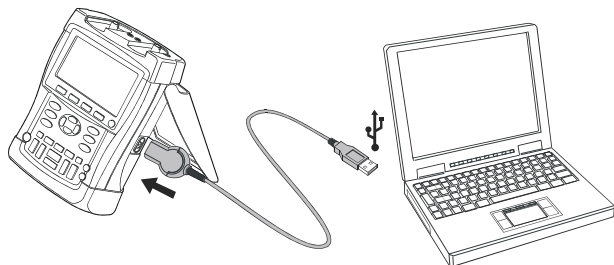

Figure 48. Connecting a Computer
- Use the Optically Isolated Adapter/Cable (USB: OC4USB; RS-232: PM9080) to connect a computer to the OPTICAL PORT of the test tool. (See Figure 48.)